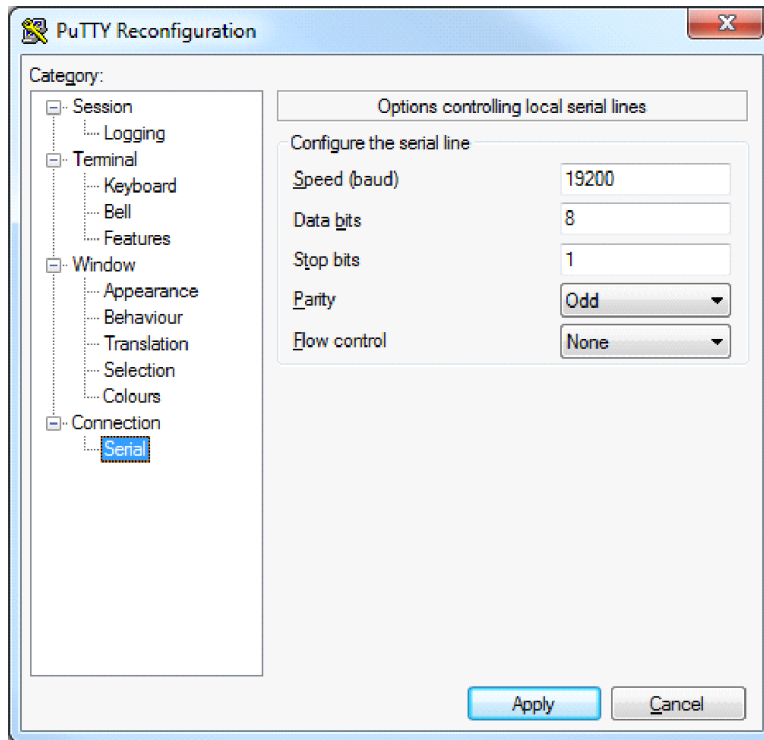

Figure A.4. PuTTY screen shot of serial configuration for 19200 BAUD and ODD parity.
- Open the terminal emulation program on your workstation. Configure the terminal program for 19200 BAUD and ODD parity. The screen shown in Fig. A.4 of Appendix 1 is for the PuTTY terminal emulation program.